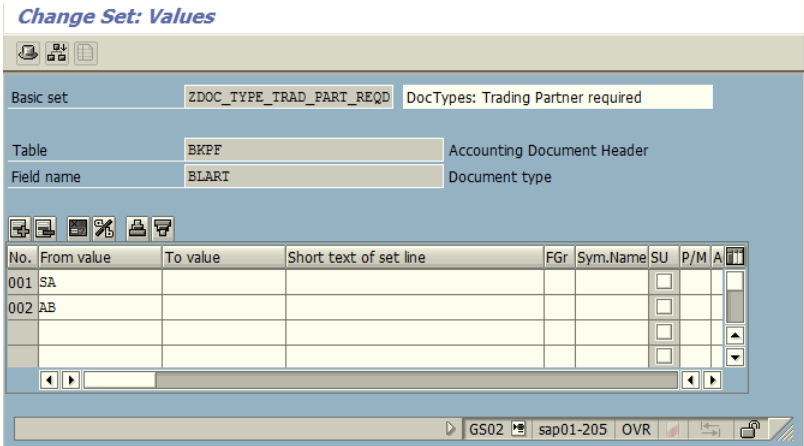

Figure 2.3: GS01/GS02—Create/Maintain set for Document Types checked for Trading Partner
- ▶ For certain document types (defined in set “ZDOC_TYPE_TRAD_PART_REQD”—Figure 2.3)